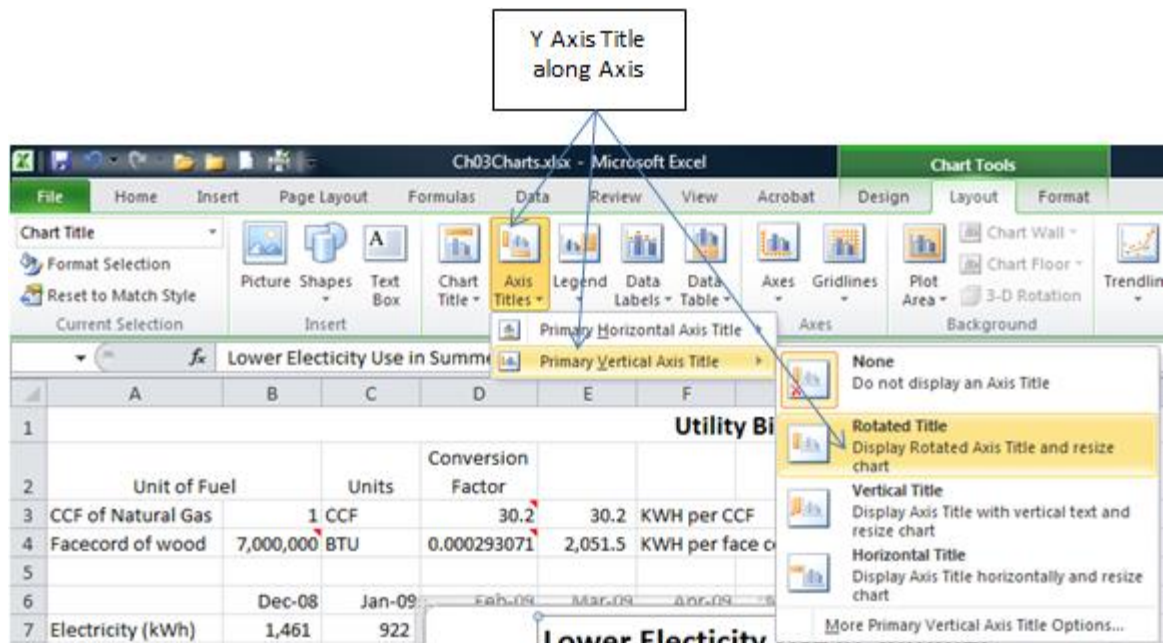

Figure 3.21. Add a title to the vertical axis
9. On the Chart Tools Layout tab, in the Labels group, click the Axis Titles button, and then move the pointer onto Primary Vertical Axis, as shown in Figure 3.21.